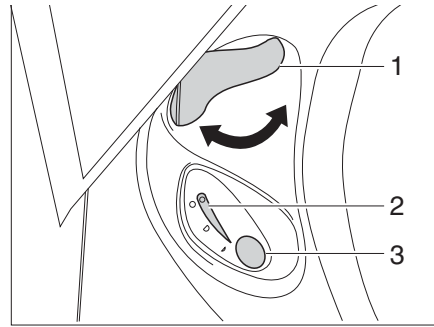

Fig. 298 Operating unit Thetford toilet
- Before flushing open the sliding trap of the Thetford toilet. To do this, turn the slide lever (Fig. 298,1) in an anticlockwise direction.
- For flushing, press the blue flush button (Fig. 298,3).
- After flushing close the sliding trap. To do this turn the slide lever (Fig. 298,1) in a clockwise direction.
The indicator lamp (Fig. 298,2) goes on whenever the Thetford cassette has to be emptied.
- Turn the slide lever (Fig. 298,1) in a clockwise direction. The sliding trap is closed. To empty, the sliding trap in the Thetford toilet **must** be closed.